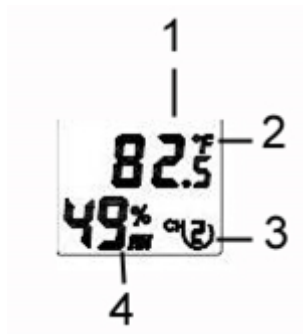

Figure 14
6. Verify the correct channel number (CH) and temperature units of measure (°F vs. °C) are on the display, as shown in Figure 14.